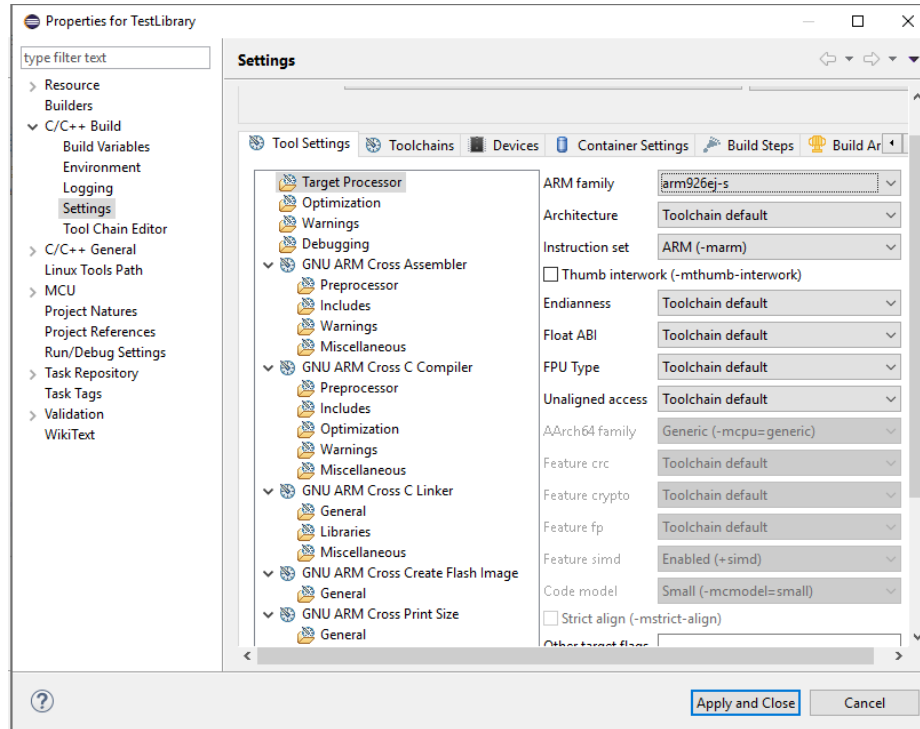

Figure 2-10 Target Processor Selection
2. Select **ARM family arm926ej-s** in **Properties → Setting → Tool Settings → Target Processor** options as shown in Figure 2-10.